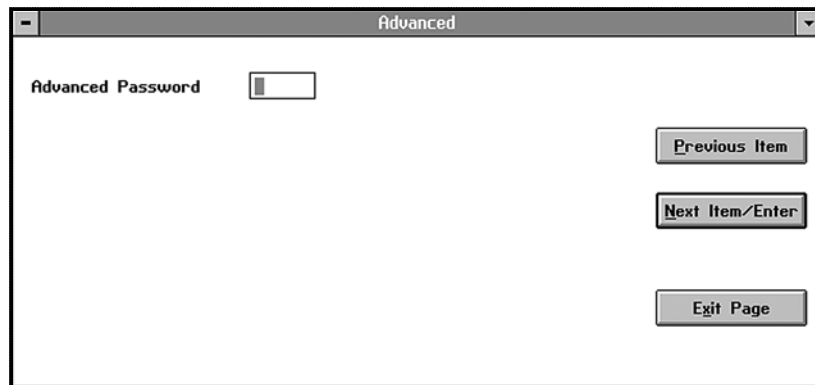

Figure 73: Password Window
2. When a window similar to *Figure 73* below opens, enter your factory-level password. Contact GE for the appropriate password.